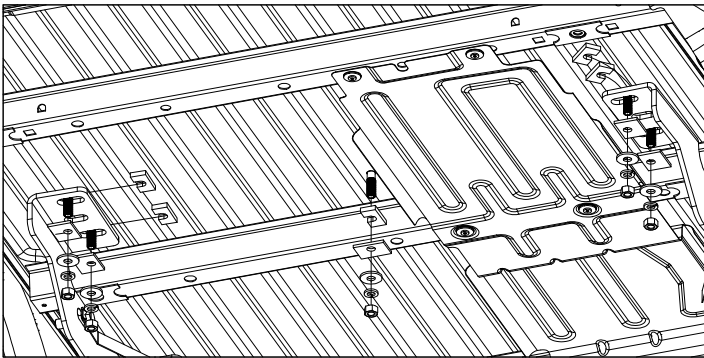

Figure C2: View under bed looking up toward cab. (Frame not shown)
- 1b. Install the rear mounting rail, cont.** Under the bed install an offset square washer, 1/2" flat washers, 1/2" lock washers and 1/2" finish nuts on each of the carriage bolts, see figure C2. Place the u-shaped spacers, see note below. Hand tighten each nut.